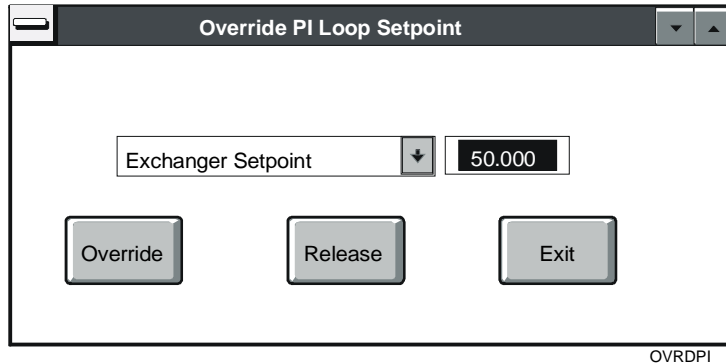

Figure 13-10: Override PI Loop Setpoint Dialog Box
1. In the graphing screen, click the Override Setpoint button. The Override PI Loop Setpoint dialog box appears (Figure 13-10).